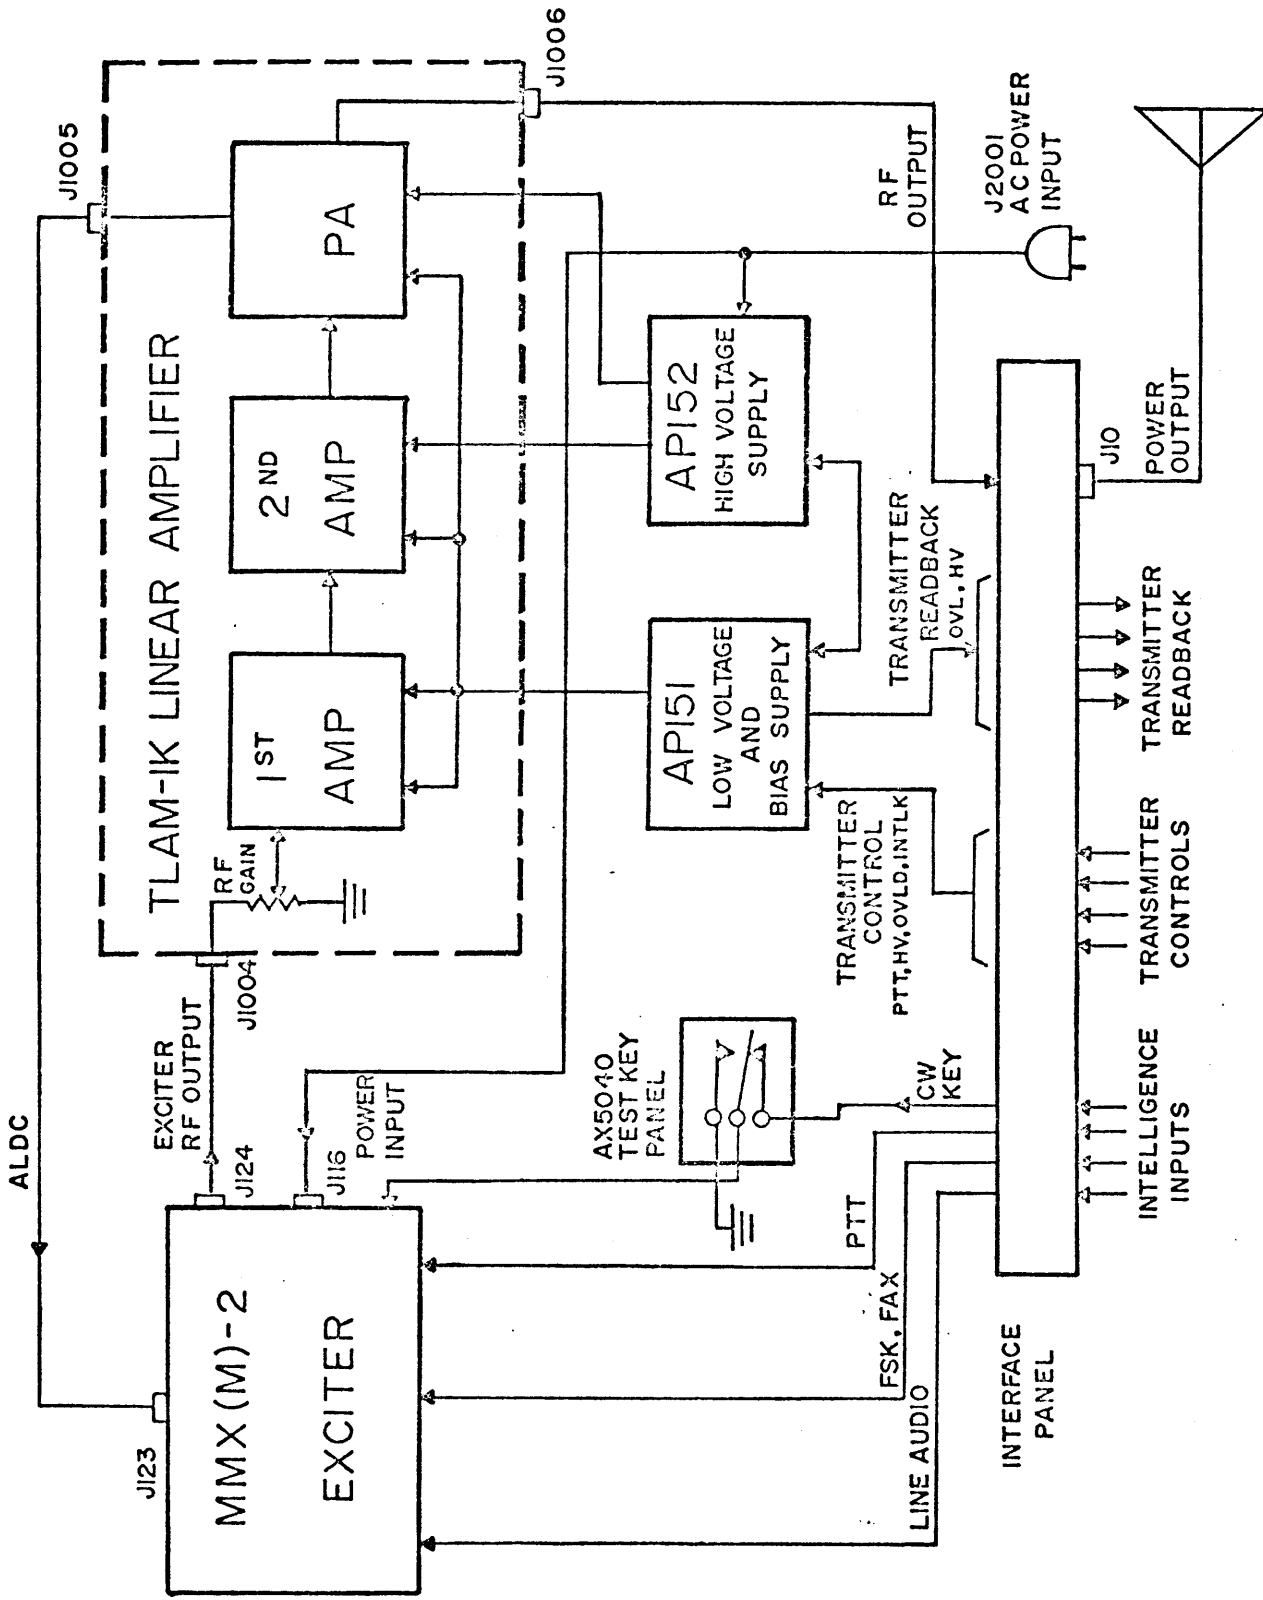

Figure 4-1. HFTM-1KJ2 Overall Block Diagram
Figure 4-1 is an overall block diagram of the HFTM-1KJ2 transmitter. Power input of 115/230 vac, 50/60 hz is applied via J2001 to the AP152 high voltage power supply and to the MMX(M)-2 exciter.
- a. Overall block diagram (Section 4, figure 4-1).